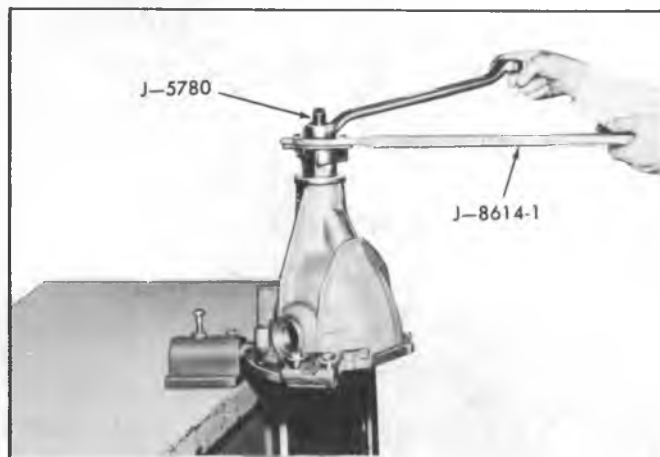

Fig 19C--Installing Companion Flange
6. Install companion flange using Holder J-8614-1 and Installer J- 5780. See Figure 19C.